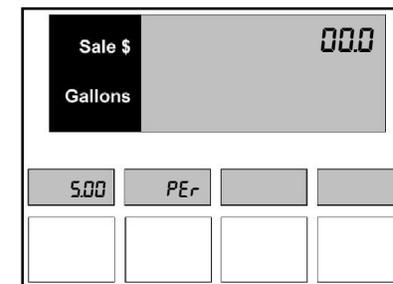

Figure 27.7 – Percent Error
4. The error display will show **PC Err** for percent error as shown in *Figure 27.7*. Enter the amount of the error (positive or negative) and press the **Enter** button. You can only change the amount to a negative value after the entered amount is other than zero. Once the **Enter** key is pressed, the main display will show **READY**. Go to step 3 to run another test can or press **Cancel** to exit.